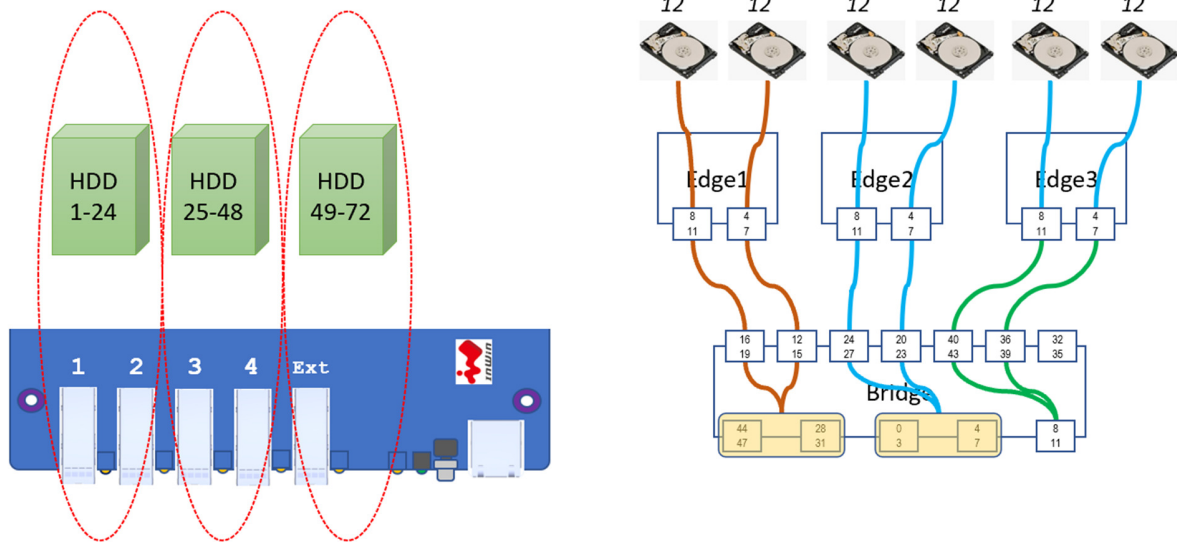

FIGURE 16 3 ZONES CONFIGURATION
Set PHY zone mode. There are 2 zone mode (0 - disable or 1 - enable). Default (0) is zone disabled. Refer to Figure 16 for enable mode (3 zones – zone1 is bay1-24, zone2 is bay25-48, zone3 is bay49-72)